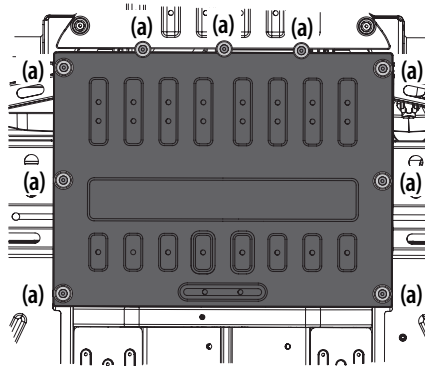

Figure 5-29
1. Remove the nine Allen-head bolts (a) and washers (a) securing the middle skid plate to the bottom of the utility vehicle. See Figure 5-29.
2. Remove the drain and allow the water to run out. Then replace the drain and the middle skid plate. See Figure 5-29.